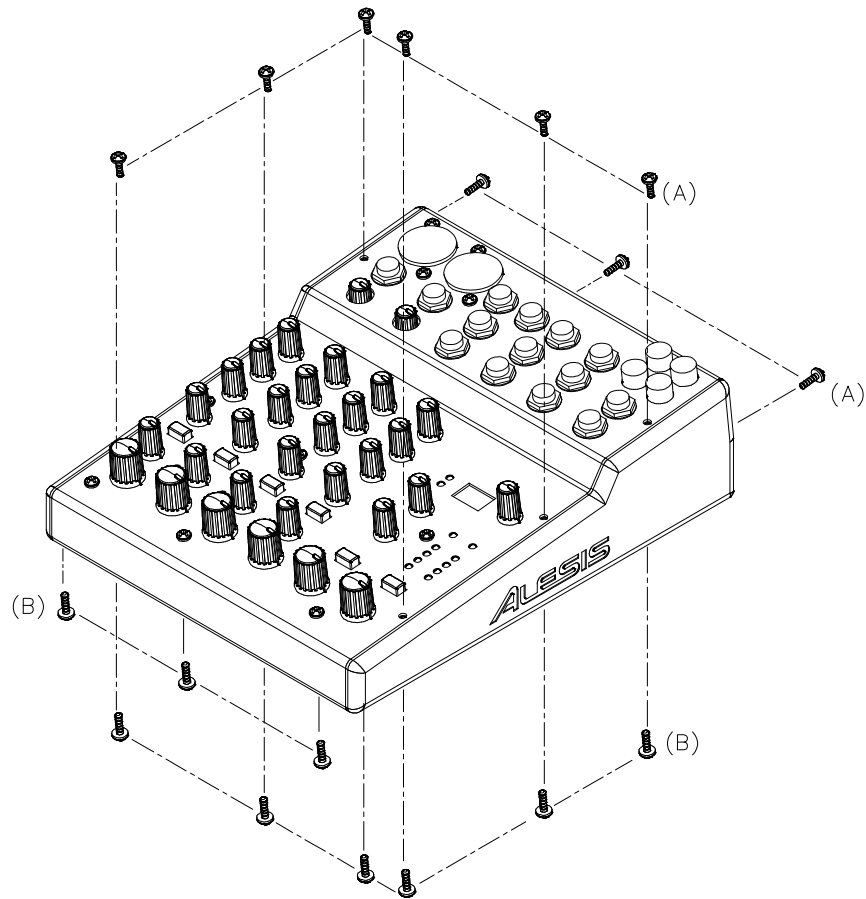

Fig.1
1. REMOVAL OF TOP PANEL/BOTTOM PANEL (Fig1)
- (A) TAKE OUT THE 9PCS SCREW FROM WHICH